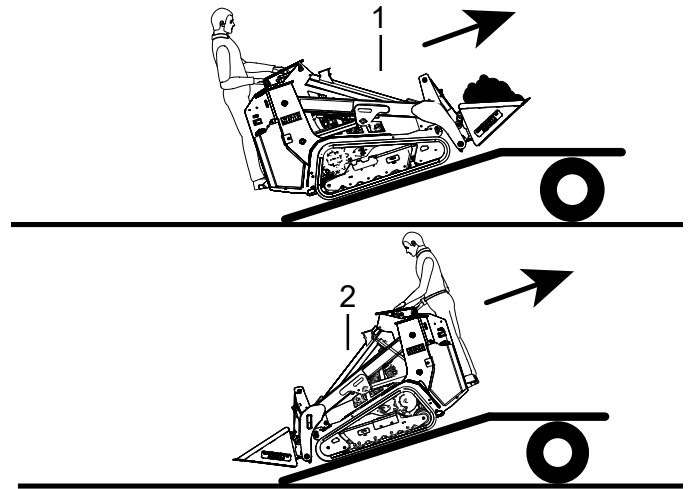

Figure 4-24. Loading Trailer
5. Load the machine onto the trailer with the heavy end up the ramp, carrying loads low, as shown in Figure 4-24, 1.
6. If the machine has a full, load-bearing attachment (e.g., bucket) or a non-load-bearing attachment (e.g., trencher), drive the machine forward up the ramp. (See Figure 4-24, 1).
7. If the machine has an empty, load-bearing attachment or no attachment, back the machine up the ramp. (See Figure 4-24, 2)